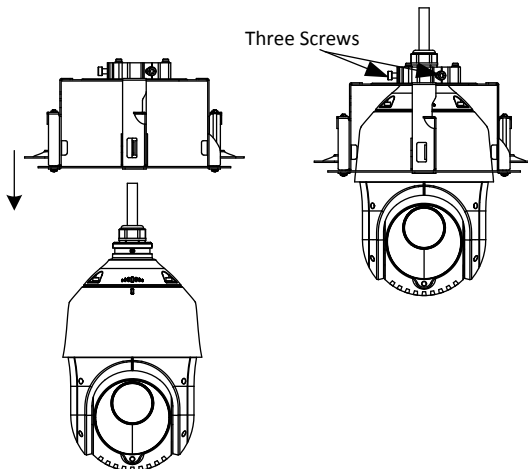

Figure 2-13 Install the Bracket
- 1) Place the in-ceiling bracket on the speed dome according to the direction of the arrow shown in Figure 2-13.